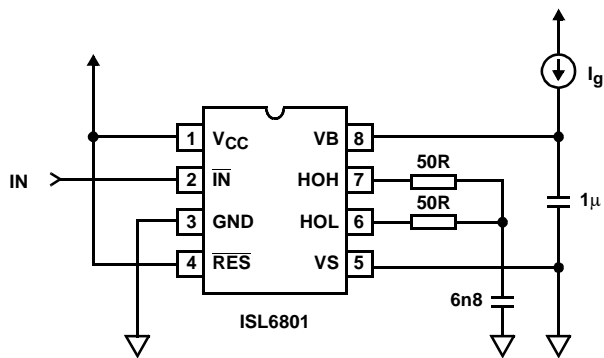

FIGURE 3. VB DROP VOLTAGE TEST CIRCUIT
3. The drop voltage is caused by VB to VS current flow during switching. See Figure 3.